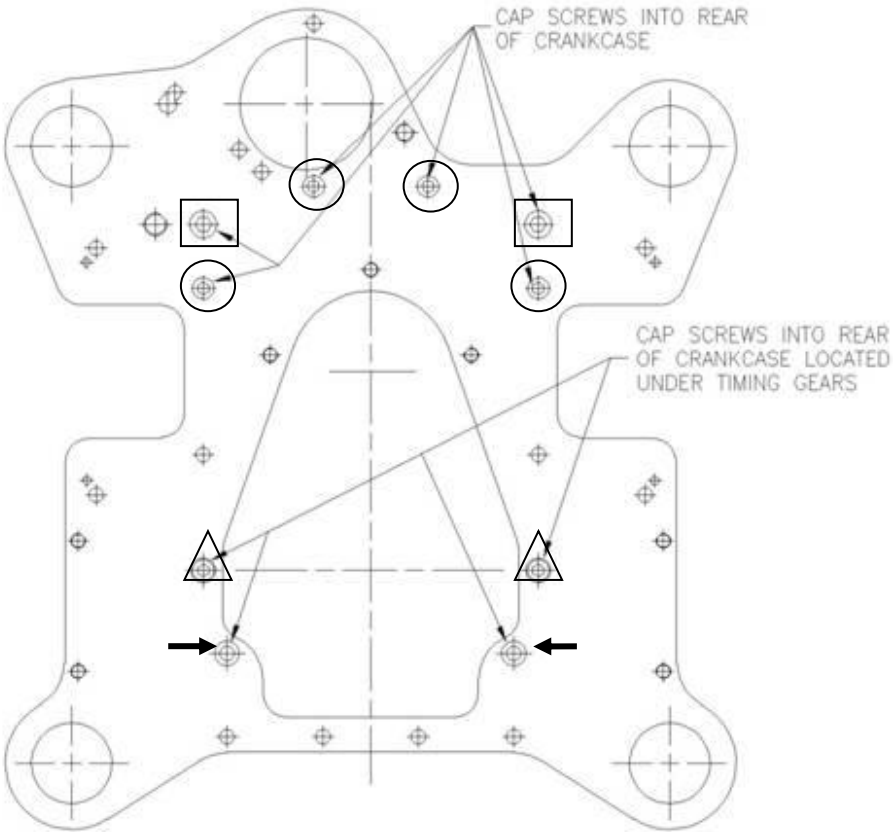

Figure 177 – Engine Mount Plate Screw Locations
- Tighten the screws holding the plate to the crankcases. Note that different sized screws are used on the plate - Figure 177 refers.